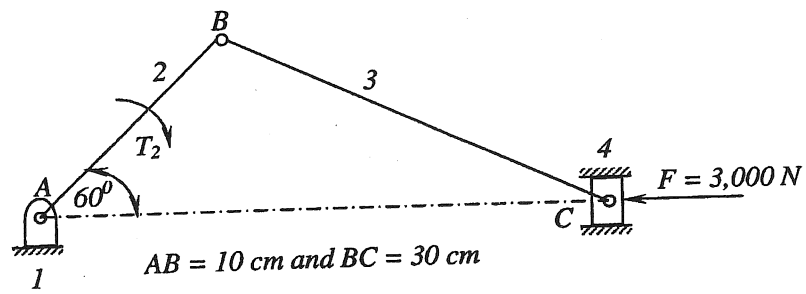

Fig. 1
- 1 Figure 1 shows a slider-crank mechanism. The value of force applied on slider 4 is 3, 000 N. Determine the forces on various links. Also calculate the driving torque T_2 .